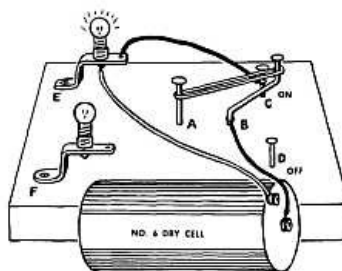

Figure 3 (Closed Circuit)
3. Pound the one-inch nails into the board for a half-inch at points A, C, and D. Use the three-inch nail to make a hole a half-inch deep at B. Put the crank nail in this hole and pound in a little farther. Attach the lamp socket brackets at E and F. Stretch the rubber band as in Figure 3.
4. Lay out the electricity path, the circuit (Figure 3). Use the black wire for the positive side of the circuit (the center pole of battery). Twist it around the switch crank B, and the center pole of battery. Run another piece to the outside terminal of bulb socket at E. Run white piece to negative pole of battery from the other terminal at E. Run white piece to negative pole of battery from the other terminal at E.